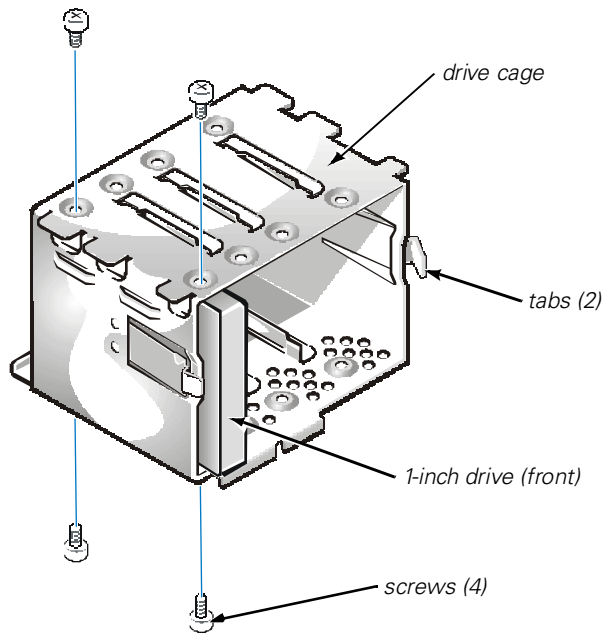

Figure 9-9. Inserting a Hard-Disk Drive Into the Drive Cage
5. Slide the drive into the chosen slot in the cage, orienting it so that the connectors on the back of the drive face the inside of the chassis when the cage is reinstalled (see Figure 9-9).
6. Align the four screw holes of the drive and cage as shown in Figure 9-9. Insert and tighten the screws that came with your upgrade kit.